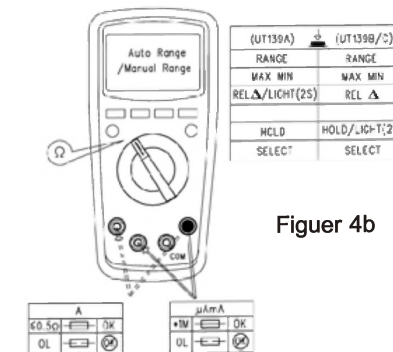

Figure 4b
- * By using the resistance measurement function, it is allowed to make self-checking of the built-in fuse, see (Figure 4b).